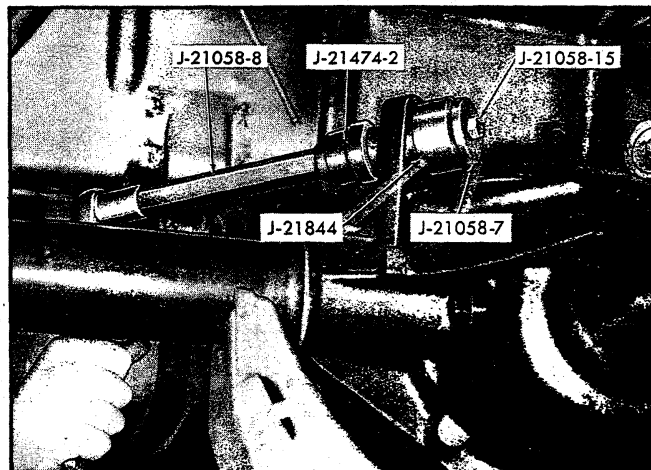

Fig. 40—Carrier Mounted Suspension Bushing Installation (Light-Duty) (Chevelle)
- e. Position bushing and Installer Adapter J-21474-2 onto puller screw with small end of bushing toward carrier ear. Refer to Figure 40 for installed view of tools.